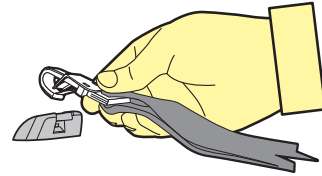

Figure 7
Step 5: Hook the attachment clip to the anchor fitting. **Ensure there are no twists in the top tether strap** (refer to Figure 7).